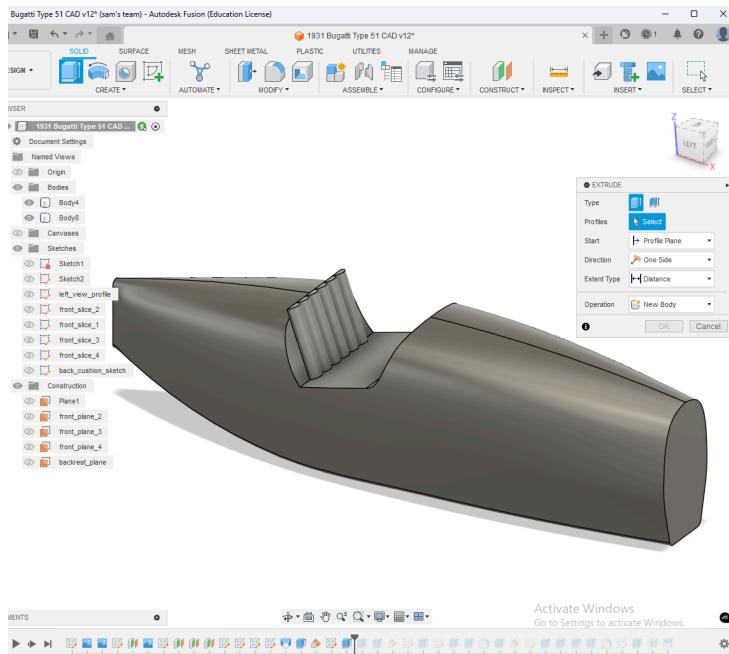

Fig. 14: Creating the seat cushions
2. Next, we will design the seat cushion. Using an array of semi circles on a construction plane, we can extrude the back of the cushion. See **Fig. 14** for visuals on this process.